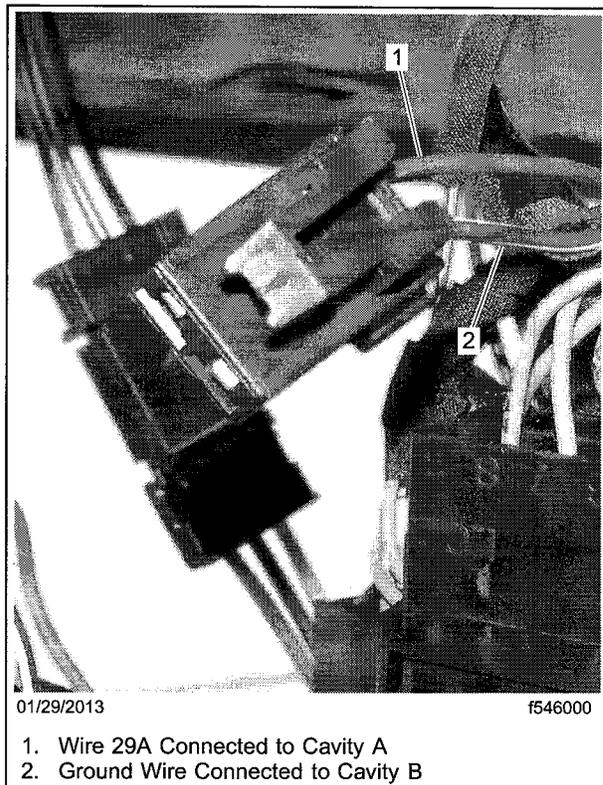

Fig. 6, Wires Installed in the Free Connector
9. Connect switch wire 29A into cavity A of the free connector from the kit (new harness A06-89235-000), and the switch ground wire into cavity B. See Fig. 6.